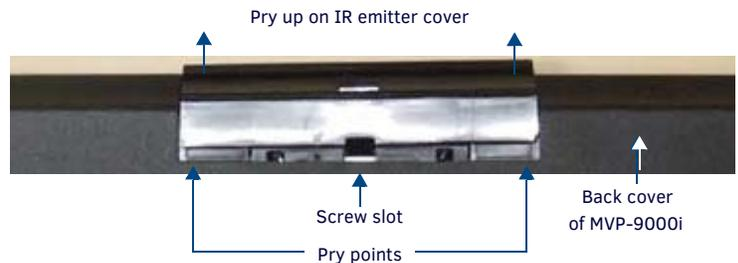

FIG. 1 IR EMITTER COVER REMOVAL
WARNING: Do NOT use tools of any sort in the screw slot (FIG. 1), as this can damage the tab on the back cover underneath the slot.
3. Gently pry up the IR emitter cover from the left side with your thumbnail or with a soft tool such as a guitar pick. (FIG. 1).